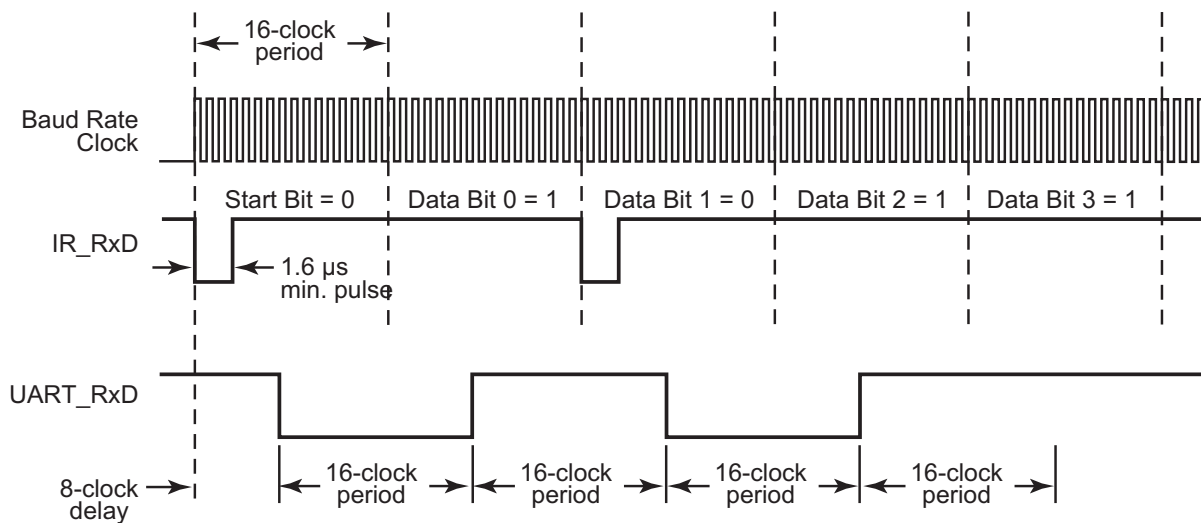

Figure 26. Infrared Data Reception
uses half duplex communication therefore the UART should not be allowed to transmit while the receiver decoder is enabled. The UART Baud Rate Clock is used by the infrared encoder/decoder to generate the demodulated signal (RxD) that drives the UART. Each UART bit is 16-clocks wide. If the data to be received is a logical 1 (High), the IR_RXD signal remains High (1) for the full 16-clock period. If the data to be received is a logical 0, a 3-clock Low (0) pulse is output following a 7-clock High (1) period. Following the 3-clock Low pulse, is a 6-clock High pulse to complete the full 16-clock data period. Data transmission is illustrated in Figure 26.